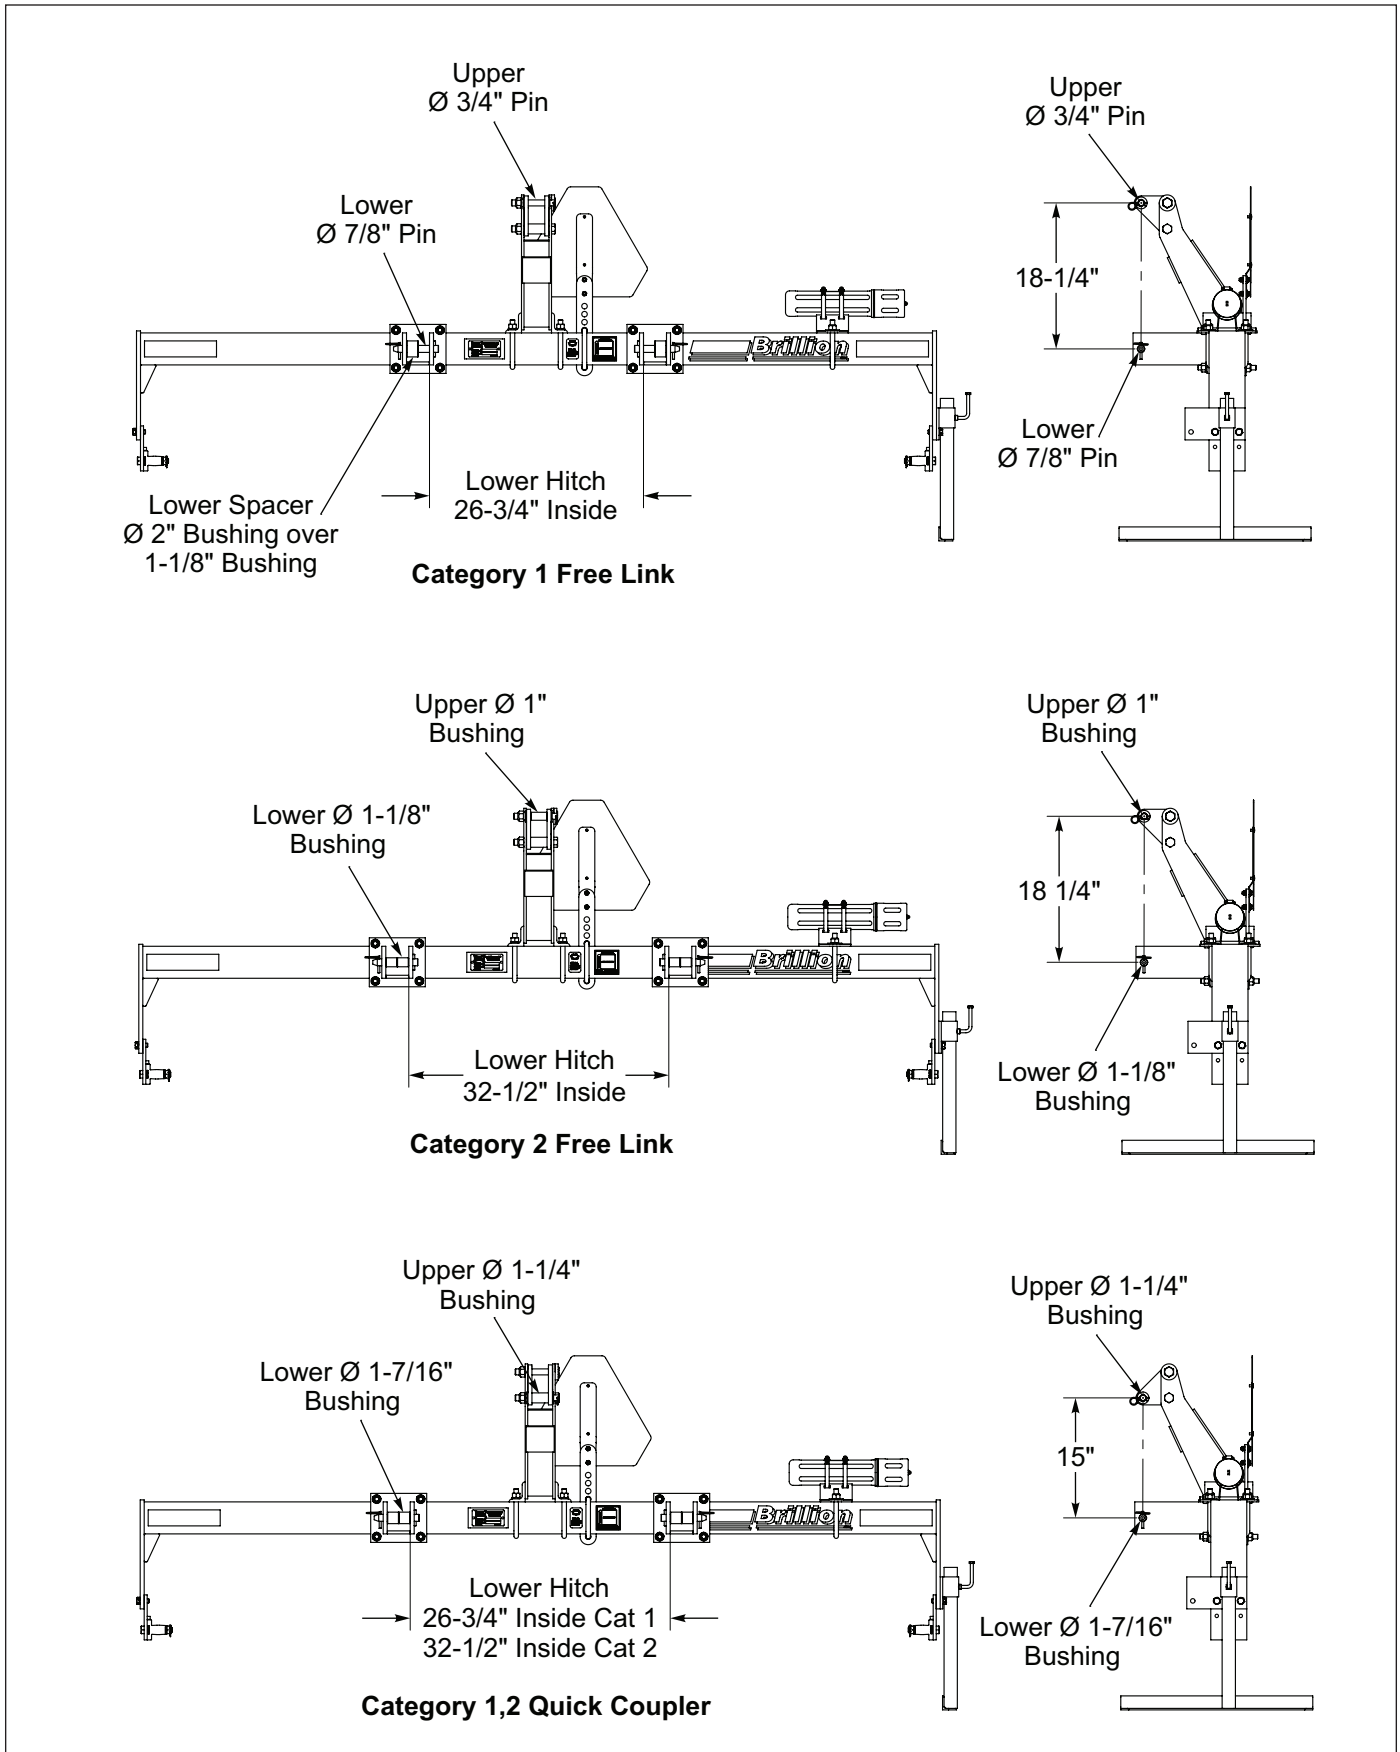

Figure 3-2: Category 3-PT Hitch, PP8
- Lower Hitch Brackets can be adjusted to match the tractor category lower links. **See Figure 3-2.**